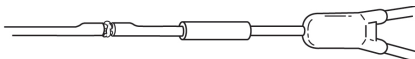

Fig. 6
6. Apply adhesive to junction. (Fig. 6)